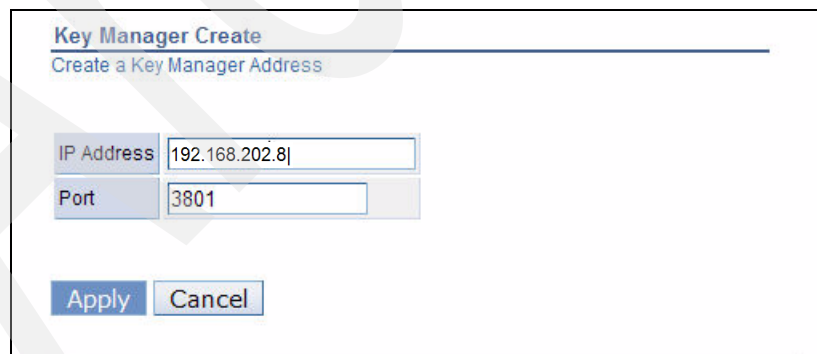

Figure 7-26 IBM TS3500 Tape Library - Create Key Manager Address window
3. After clicking **Go**, in the newly opened “Create Key Manager Address” window, enter the IP address of the i5 server where EKM has been installed as shown in Figure 7-26.